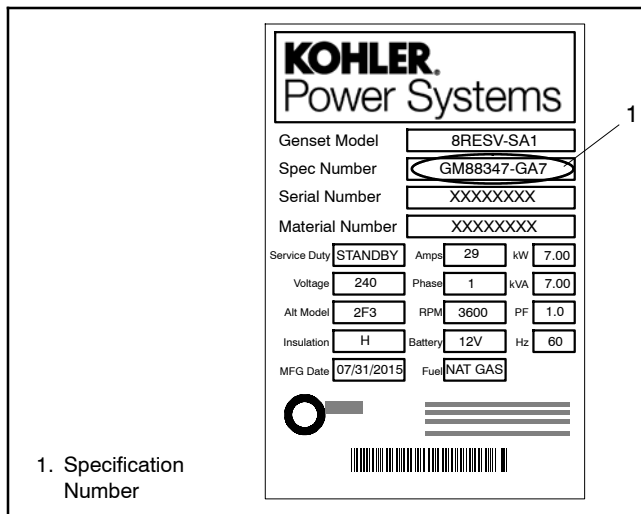

Figure 1-2 Name Plate
Note: The reduced minimum clearance from a structure contained in ADV-8774 only applies to generators that are compliant with clause (2) of section 4.1.4 of NFPA 37. To verify that the generator is compliant, check the **Specification Number** located on the generator name plate. See Figure 1-2. If the name plate displays one of the following specification numbers, then the generator is compliant with clause (2) of section 4.1.4 of NFPA 37 and the reduced clearance in ADV-8774 (Figure 3-5) will apply.